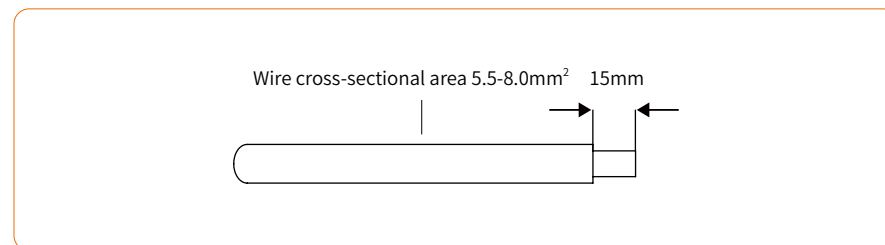

Figure 5-16
② Peel off the DC cable insulation sleeve for 15 mm, as shown in Figure 5-16: